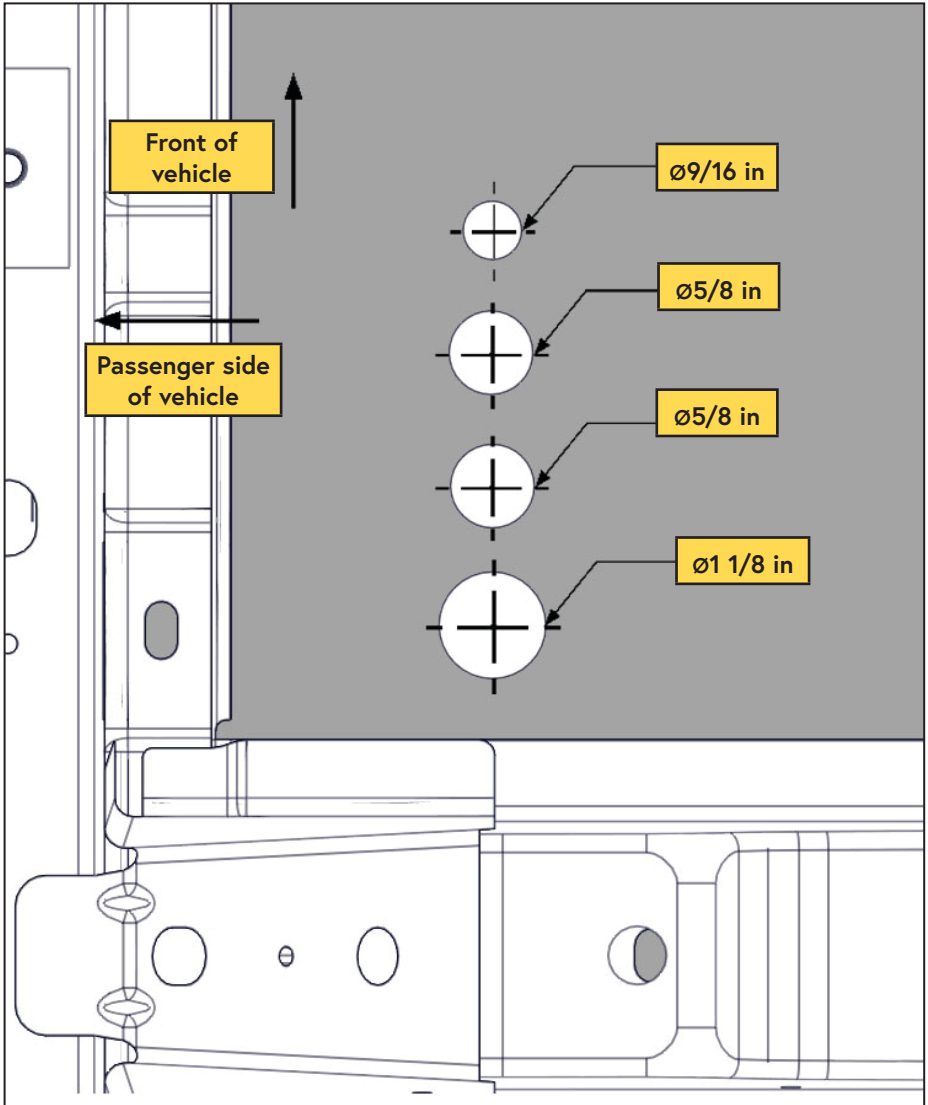
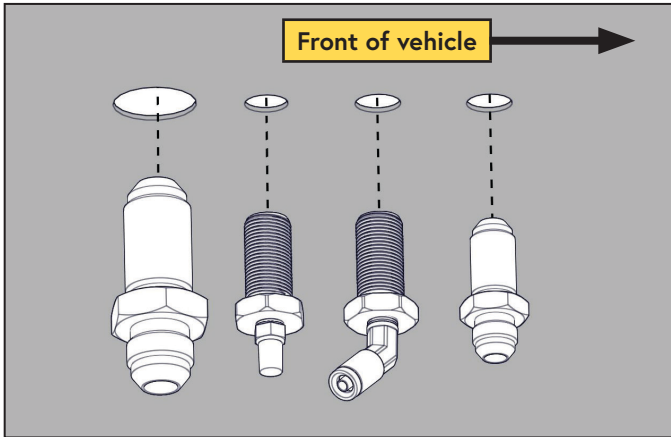
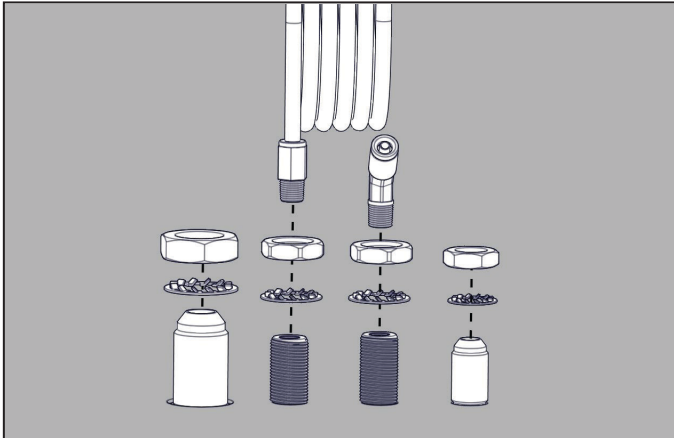

Figure 22 — Vehicle chassis (bottom view)
Figure 23 — Bulkhead fittings (bottom view)
Figure 24 — Bulkhead fittings (top view)
- Drill the bulkhead fitting holes using a drill, step drill or hole saw. Leave enough room between the fittings to allow access for a wrench (Figure 22, Figure 23, Figure 24).
- Fit the bulkhead fittings from the bottom of the hole to provide maximum ground clearance. Secure from the top with the supplied nuts (Figure 23, Figure 24)